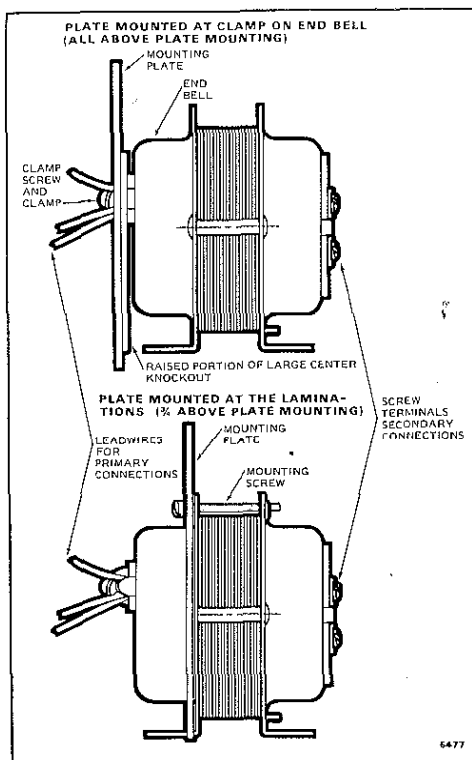

Fig. 2—Plate may be mounted to transformer in one of two positions.
The plate may be mounted to transformer in one of two positions: (1) at clamp on primary end bell (transformer all above plate), or (2) at the laminations (transformer 3/4 above plate). See Fig. 2.